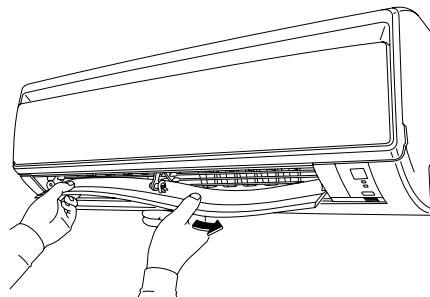

Fig. 5
- (2) Remove horizontal blade by pulling forward. (Fig.5)